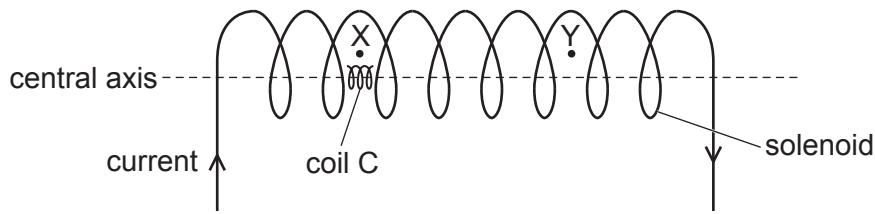

Fig. 6.1
- 6 (a) A small coil C has 64 turns and cross-sectional area 0.71 cm^2 . The coil is placed inside a solenoid as shown in Fig. 6.1.